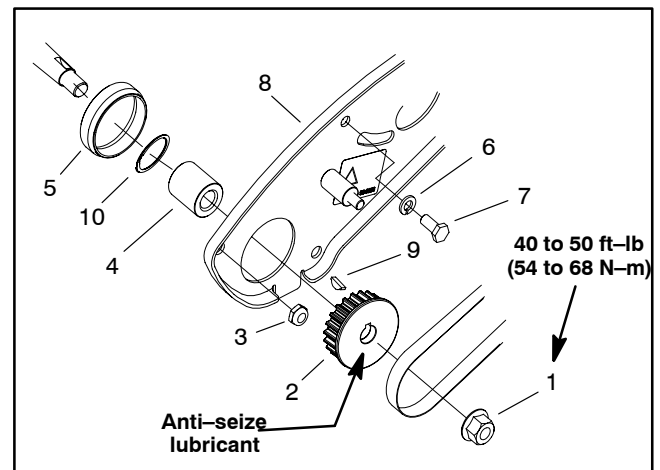

Figure 41
8. Install spacer in left side reel bearing housing. Position reel drive plate assembly and fit two locknuts, cap screw and lockwasher that secure reel drive plate assembly to side of cutting unit (Fig. 41). Tighten fasteners to secure assembly.